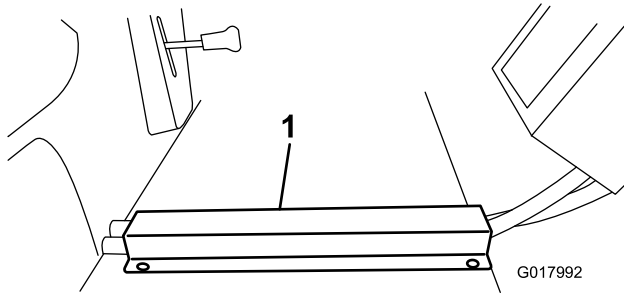

Figure 23
3. Place the hose channel over the hoses on the floorboard and line up the forward edge with the front edge of the floorboard. Mark and drill holes in the floorboard and install the self-tapping screws (Figure 23).